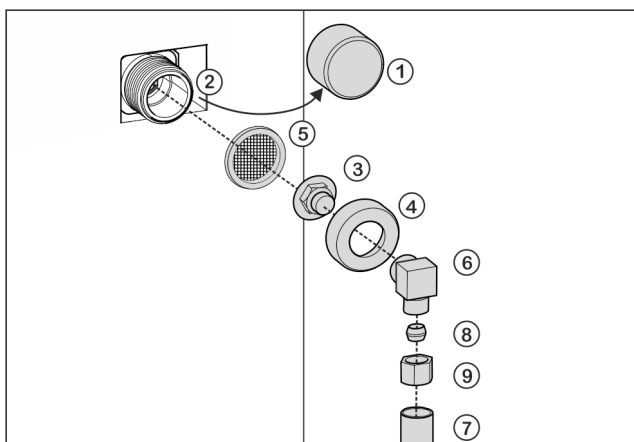

Fig. 14
- ▶ Remove cap Fig. 14 (1) from solenoid valve Fig. 14 (2).
- ▶ Insert coupler Fig. 14 (3) into union nut Fig. 14 (4).
- ▶ Insert the filter Fig. 14 (5) with the recess pointing down towards the coupler Fig. 14 (3).
- ▶ Screw the union nut Fig. 14 (4) by hand onto the thread of the solenoid valve Fig. 14 (2) until it is firmly in place.
- ▶ Screw on angle piece Fig. 14 (6).
- ▶ Connect the water pipe Fig. 14 (7) (e. g. 1/4" OD copper pipe) with the clamp ring Fig. 14 (8) and nut Fig. 14 (9) to the elbow connector Fig. 14 (6).
- ▶ If necessary: Fasten the water pipe Fig. 14 (7) to the housing with the guide clip.
- ▶ Put angle piece Fig. 14 (6) to one side.
- ▶ Connect the water pipe Fig. 14 (7) (e. g. 1/4" OD copper pipe) with the clamp ring Fig. 14 (8) and nut Fig. 14 (9) to the coupler Fig. 14 (3).